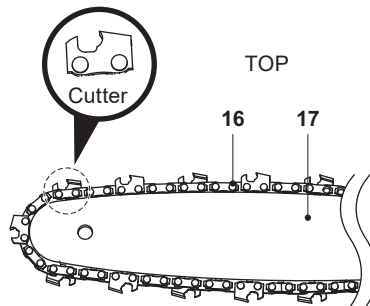

Fig. 3
4. Change the old saw chain (16) with a new one of the same type. Clean the drive sprocket (11) and the guide bar (17). Please refer to the section "Care and maintenance -> General cleaning".
5. Spread the saw chain (16) out with the cutting edges of the chain pointing in the direction of rotation, then slide the saw chain (16) into the groove around the guide bar (17). Ensure saw chain (16) is installed in correct direction of rotation (Fig. 3).